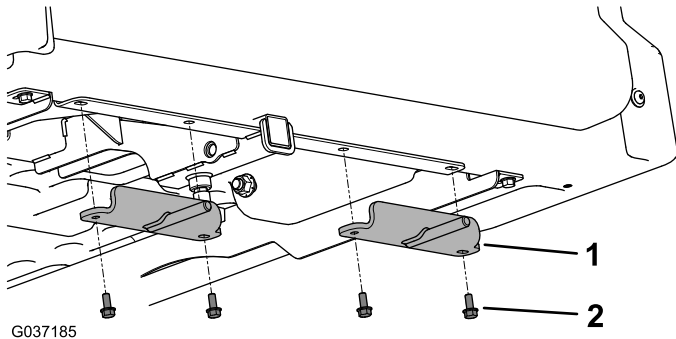

Figure 3
2. Install the 2 outriggers to the bottom of cargo bed using the previously removed hex-flange screws (5/16 x 3/4 inch) as shown in Figure 3.